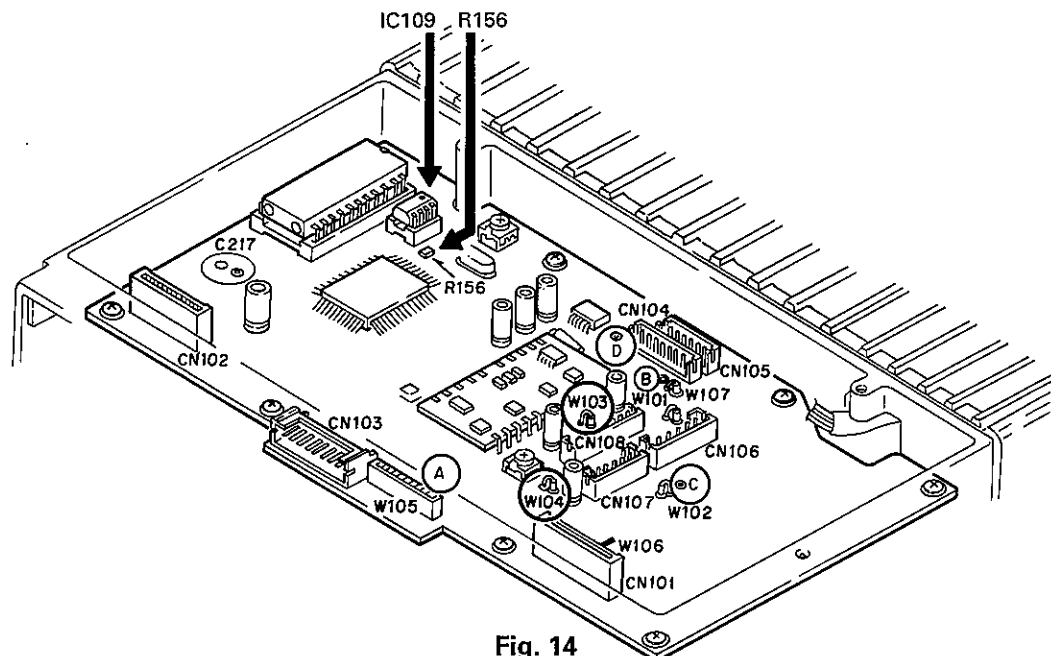

Fig. 14
- 2) Remove IC109 from the control unit (X57-3740 A/4) and install the KCH-5 EEPROM (X24C16PI) by soldering. (Fig. 14)
- 3) Remove R156 (R92-0670-05) of the control unit. (Fig. 14)
- 2) Remove IC109 (X24C04PI) of the control unit (X57-3740 A/4) from the socket, and install the KCH-5 (X24C16PI). (Fig. 14)